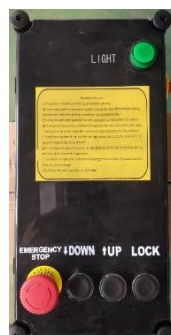

Fig. 5
1. Two hydraulic cylinders (8) for lifting the vehicle attached to the post.
2. One hydraulic unit (see Fig. 5), mounted on the control side, for activating the cylinders.
1.4 HYDRAULIC POWER UNIT (FIG. 5)